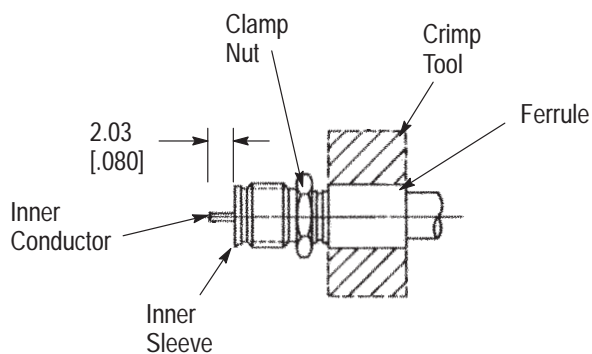

Figure 4
2.2. Crimping Cable to Inner Sleeve (Figure 4)